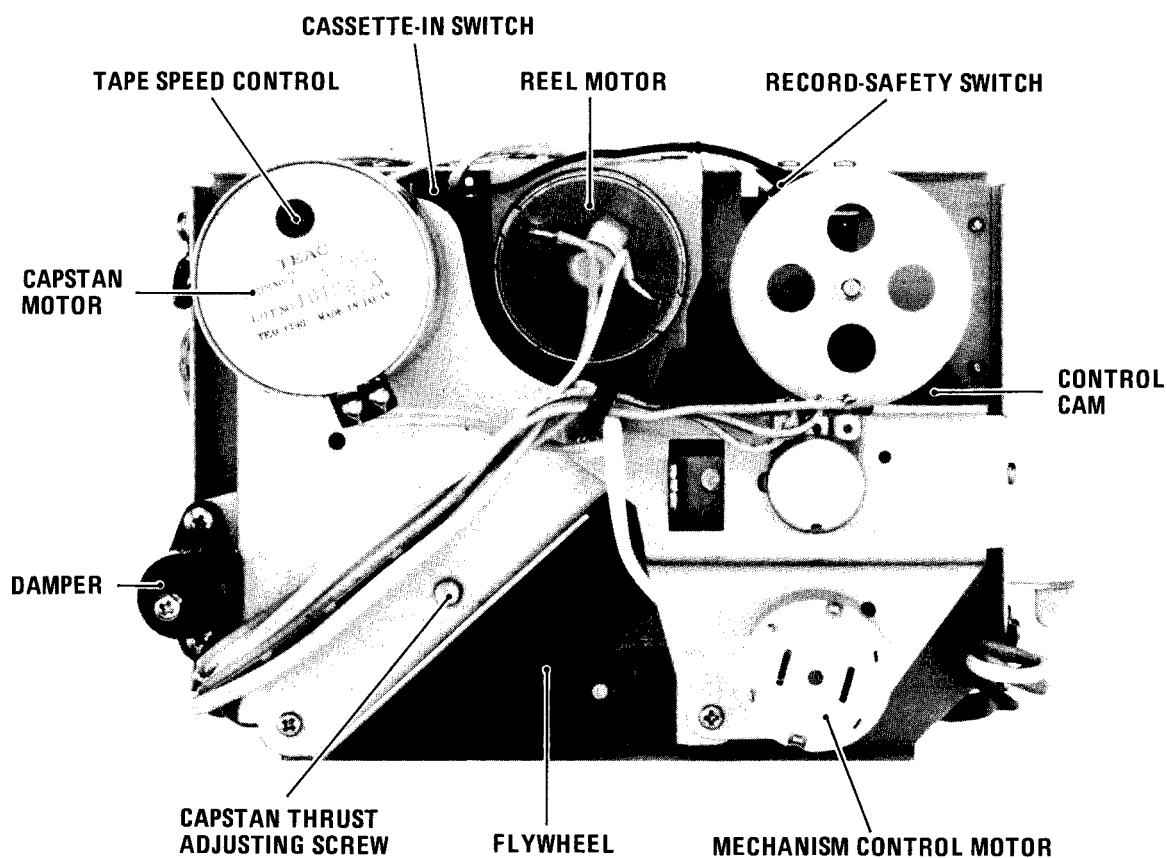

Fig. 3-4 Transport rear view
1. Turn the thrust adjusting screw so that thrust of the capstan shaft is from 0.1 mm to 0.2 mm. For the thrust adjusting screw location, see Fig. 3-4.
3. While the tape is playing, use a common slotted screwdriver with the handle completely insulated from the blade, and adjust the control on the capstan motor (see Fig. 3-4) for a reading of 3015 to 3025 Hz on the frequency counter.